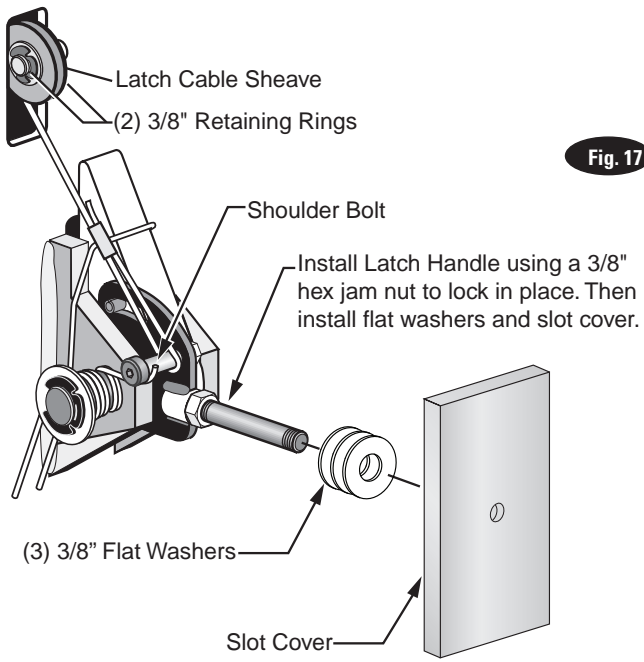
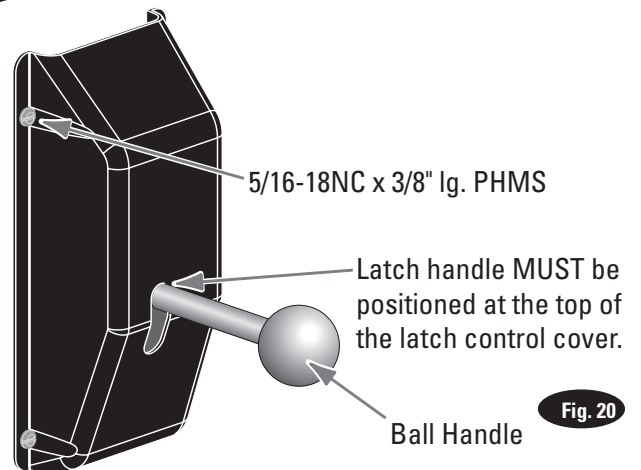

Fig. 17
Fig. 20
- A) Install latch cable sheave and retaining rings in upper slot of power unit column as shown, Fig. 17.
- B) Slip loop end of cable over end of shoulder screw on right side latch control plate, Fig. 17.
- C) Feed the other end of the cable through the latch cable sheave slot making sure that the cable is running under the bottom side of the latch cable sheave and inside the right column, Fig. 17.
- I) At this point you **MUST** install the latch handle, jam nut, and right column latch cover Fig. 17 & Fig. 20. Install latch handle ball, Fig. 20.